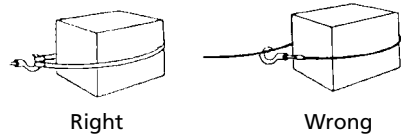

Figure 10
2. Never hook wire rope back onto itself. Hooking wire rope onto itself can damage rope. Use a nylon sling (See Figure 10). When using a sling, make sure that sling is properly seated in saddle of hook.